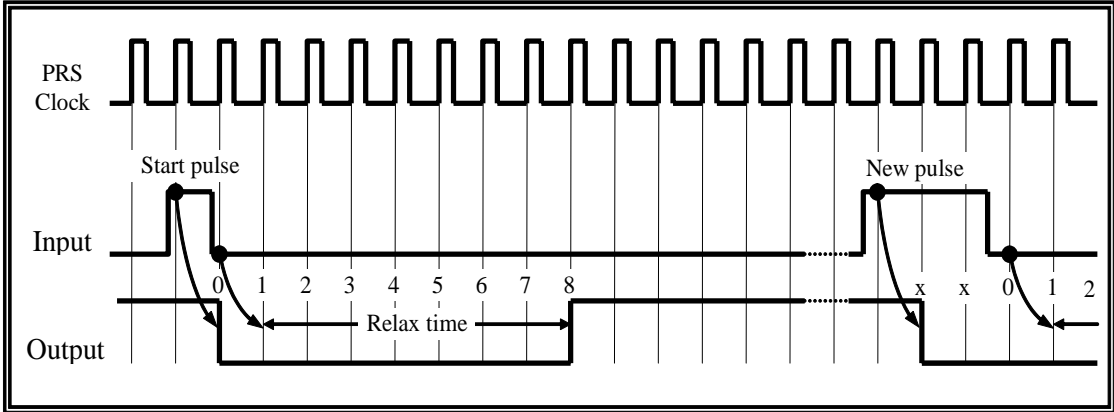
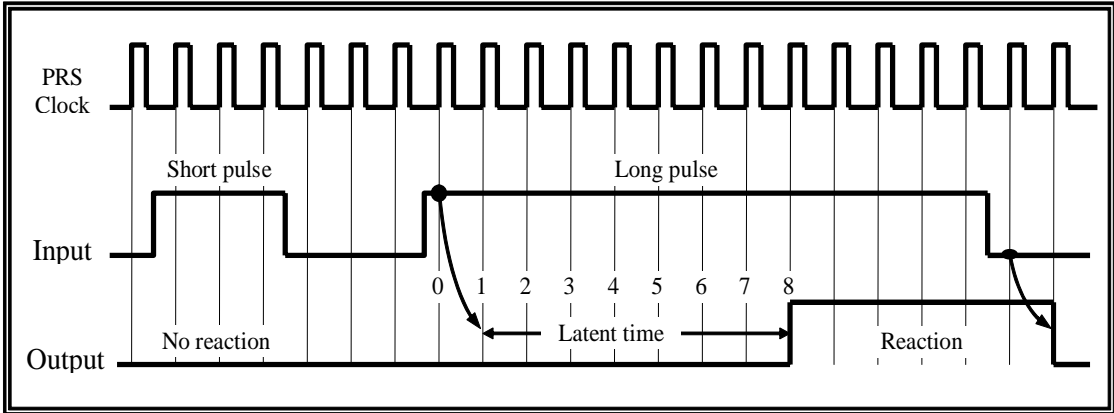
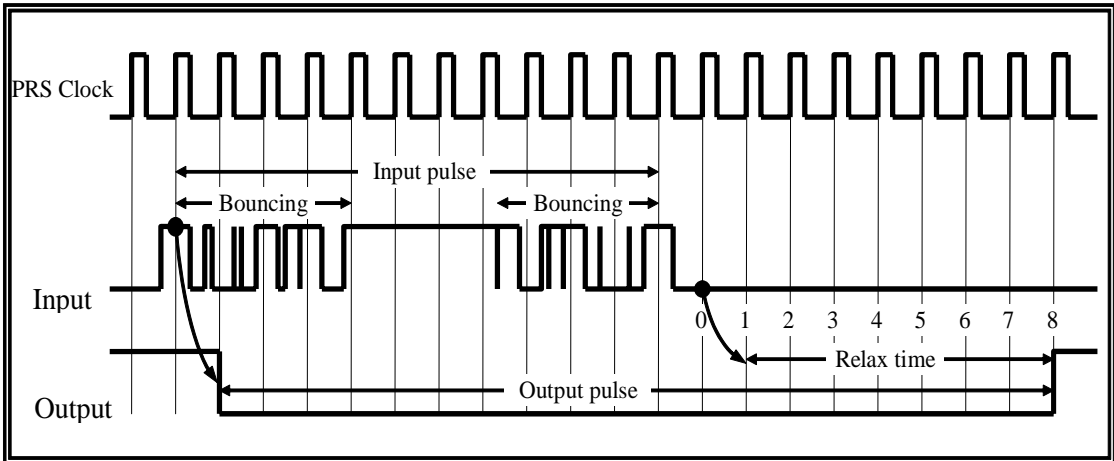

Figure 4. One-Shot Operation (Seed Register=00000000)
Figure 5. Pulse Width Selection (Seed Register=11111111)
Figure 6. Pulse Width Debouncing (Seed Register=00000000) Output Pulse is "Longed"
The operating variants of the 8-bit PRS with different parameters are listed in Table 2. The operating diagrams are shown in Figure 4, Figure 5, Figure 6 and Figure 7.
1. All reactions are delayed by 1 tick of the PRS clock as shown in figures 4, 5, 6 and 7 (a feature of the internal comparing circuit).